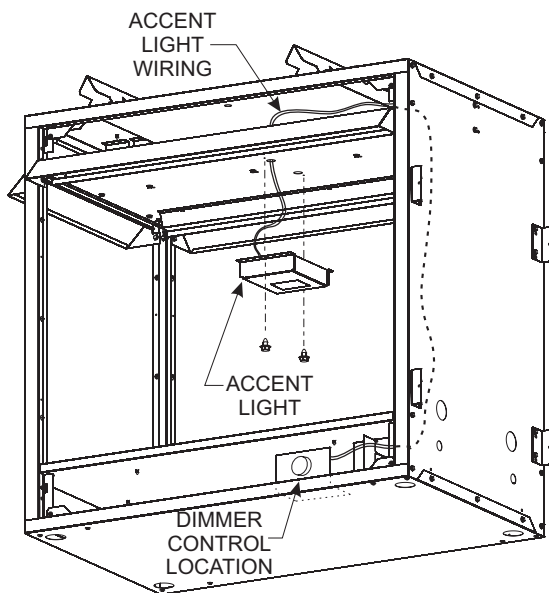

Figure 4
- Next, locate the Accent Light kit assembly housing, light, and wire assembly. Run the wire assembly up through the hole in the firebox top, then over to the side of the firebox. Drop the wire assembly ends down between the firebox wall and the outer wrap wall. See **Figure 4**.
- While feeding the wiring through the hole in the top of the firebox, raise the Light and Holder bracket assembly to the firebox top, then secure the light kit with (2) # 10 x 1/2" Hex Head Screws. See **Figure 4**. Check to make sure the wiring is not pinched, or in a bind when securing this assembly.